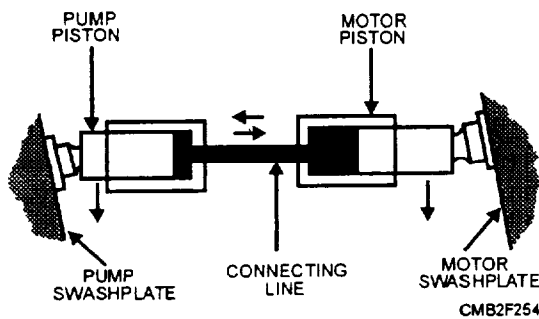
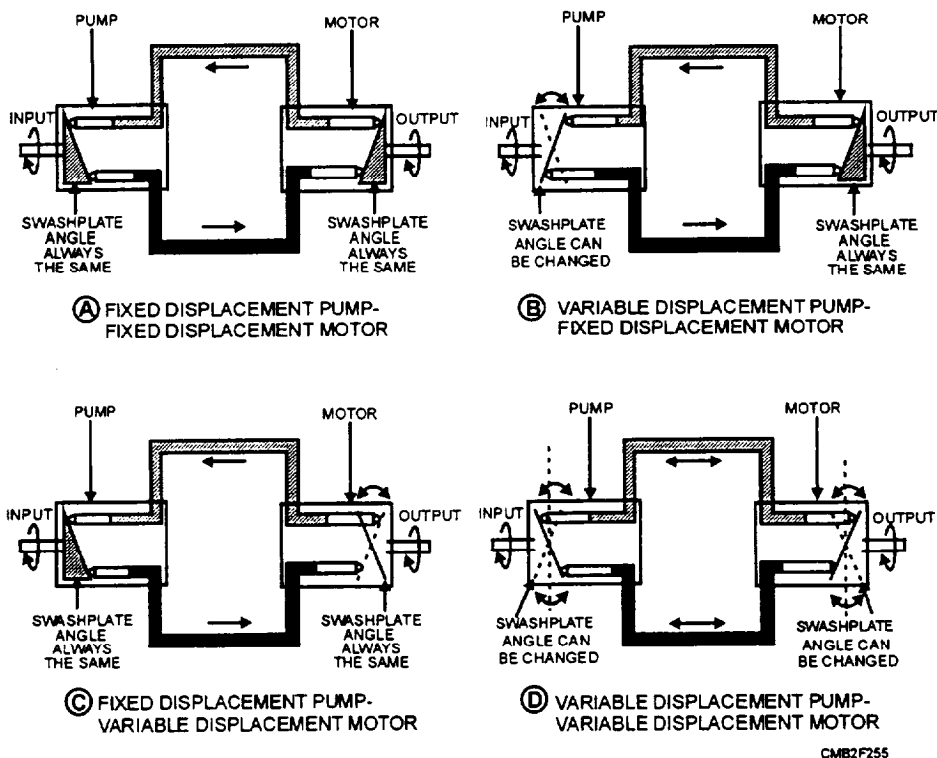

Figure 6-13.—Connected cylinders with swash plates.
Figure 6-14.—Pump and motor combinations for hydrostatic drives.
To provide a pumping action for the pistons, a plate, called a SWASH PLATE, is located in both the pump and motor (fig. 6-13). The pistons ride against the swash plates. The angle of the swash plates can be varied, so the volume and pressure of oil pumped by the pistons can be changed or direction of the oil reversed. A pump or motor with a movable swash plate is called a variable-displacement unit. A pump or motor with a fixed swash plate is called a fixed displacement unit. There are four pump-motor combinations, which are as follows (fig. 6-14):
Fixed displacement pump driving a fixed displacement motor (fig. 6-14, view A). This setup will give you constant horsepower and
- Variable displacement pump driving a fixed displacement motor (fig. 6-14, view B). Since the pump is variable, output speed is variable and torque output is constant for any given pressure. This setup provides variable speed and constant torque.
- Fixed displacement pump driving a variable displacement motor (fig. 6-14, view C). In this setup changing the motor displacement varies output speed. When motor displacement decreases, output speed increases, but output torque drops. When the setup is balanced, it gives a constant horsepower output.
- Variable displacement pump driving a variable displacement motor (fig. 6-14, view D). This setup gives an output of both constant torque and constant horsepower. It is the most flexible of all the setups, but it is also the most difficult to control.